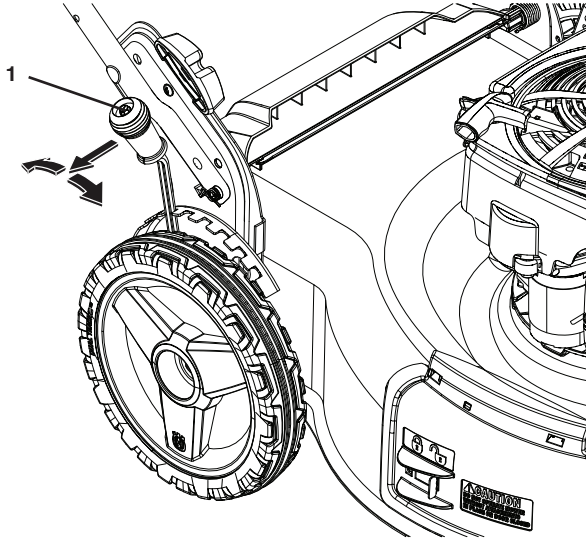

Figure 9
1. Pull adjuster lever toward wheel. To raise mower, move lever forward to desired position. To lower mower, move the lever toward the rear (Figure 9).